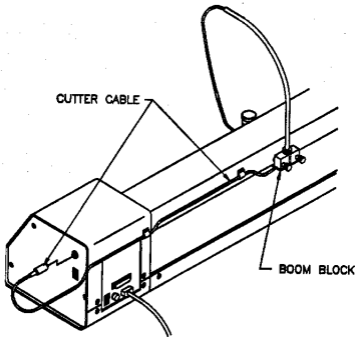

Figure 2-2— Routing Cutter Cable
2. Route the Cutter Cable through the groove in the Boom Block, through the self-adhesive cable clips, and insert the plug into the connector on the Right End Cover. (See Figure 2-2).